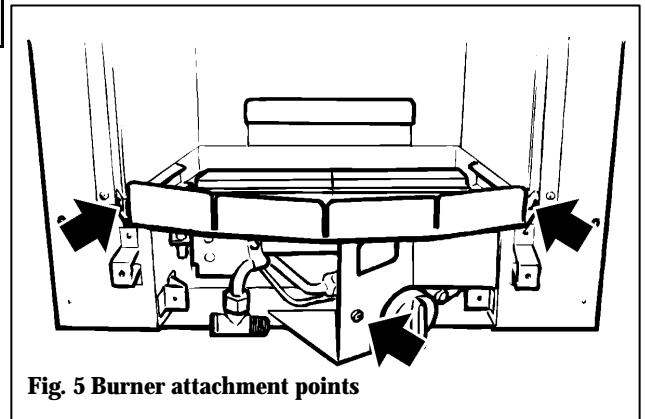

Fig 5 Burner attachment points
6.2 Detach the burner unit from the convection box by removing three screws (see figure 5). Lift the burner unit clear.